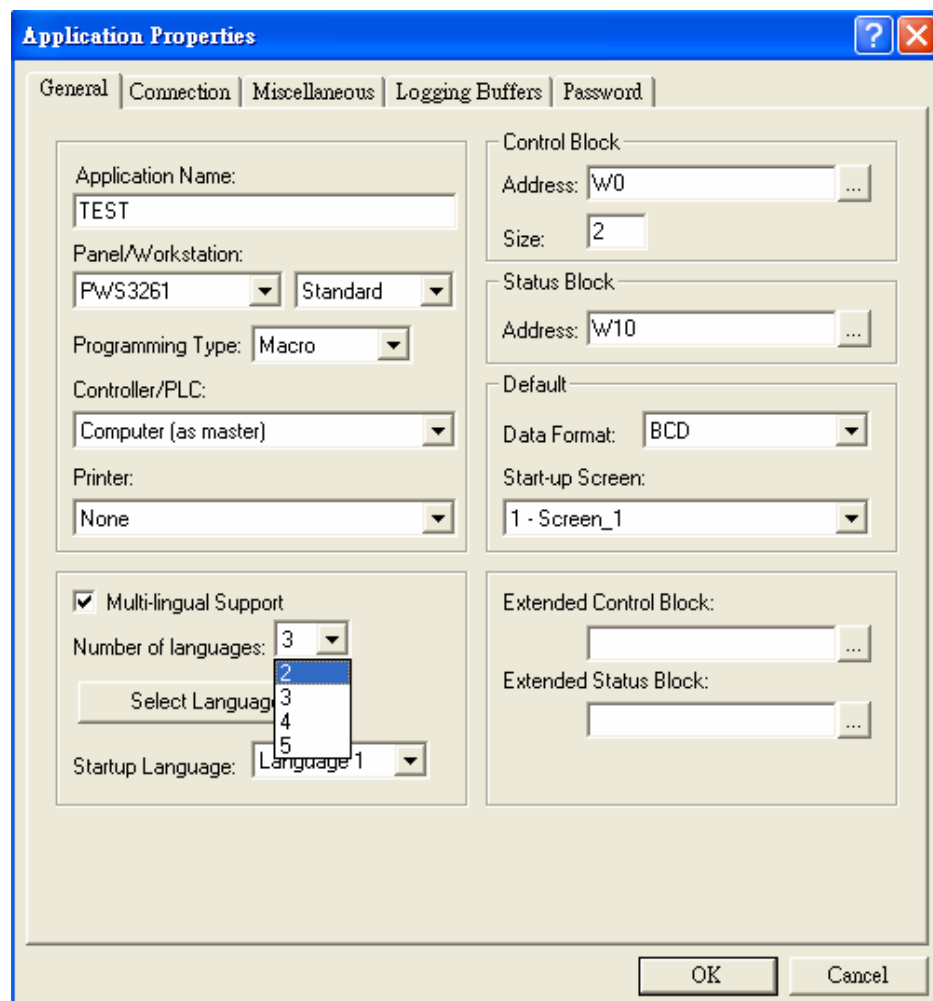

Figure 45. The [Application Properties] Dialog Box
1. Select [Application]/[Workstation Setup]. The [Application Properties] dialog box will appear on the screen. See Figure 45.
2. On the [General] tab, check the [Multi-lingual Support] box to start setup. See Figure 45.